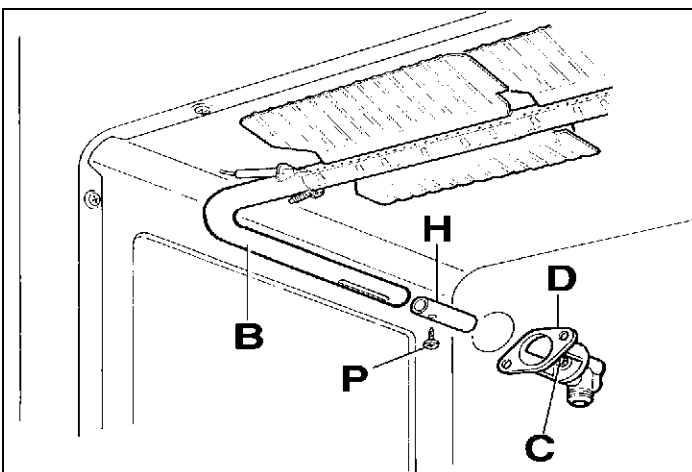

Fig. 12
- 1) Loosen the screw and pull out the burner from the support being careful not to damage the ignition plug and the thermocouple (Fig. 12).
- 2) Unscrew the nozzle **C** (Fig. 12) using a 7 mm spanner and replace it with the nozzle needed for the new type of gas according to what is indicated in TABLE shown below.